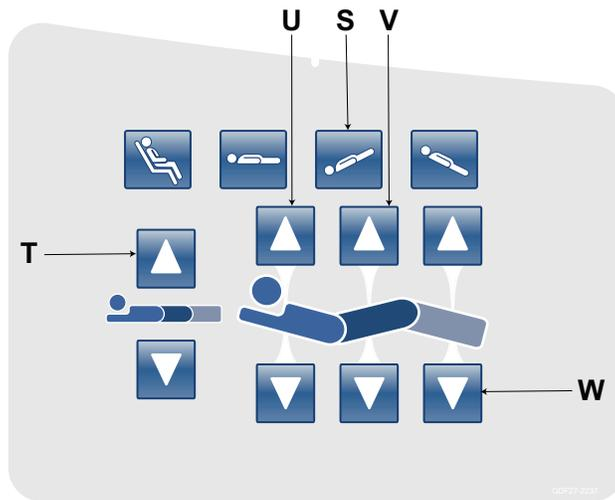

Figure 20 – Complete calibration
28. To place the bed at the highest height, press the Trendelenburg (foot lift up) (S) button and Bed Height Up (head lift up) (T) button simultaneously (Figure 20).
29. To place the Fowler and Gatch section of the bed at the highest height, press the **Fowler Up (U)** button then the **Gatch Up (V)** button (Figure 20).
30. To place the foot at the lowest position, push the **Foot Down (W)** button until limit is met (Figure 20).